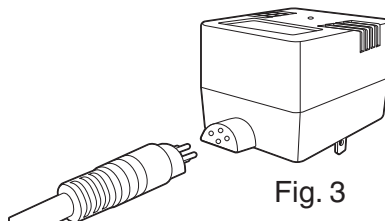

Fig. 3
8. Attach the ballast to the power cord. Use care to align the 4-pin plug properly. DO NOT FORCE – the 4-pin plug was designed to fit in only one orientation. (Fig. 3)